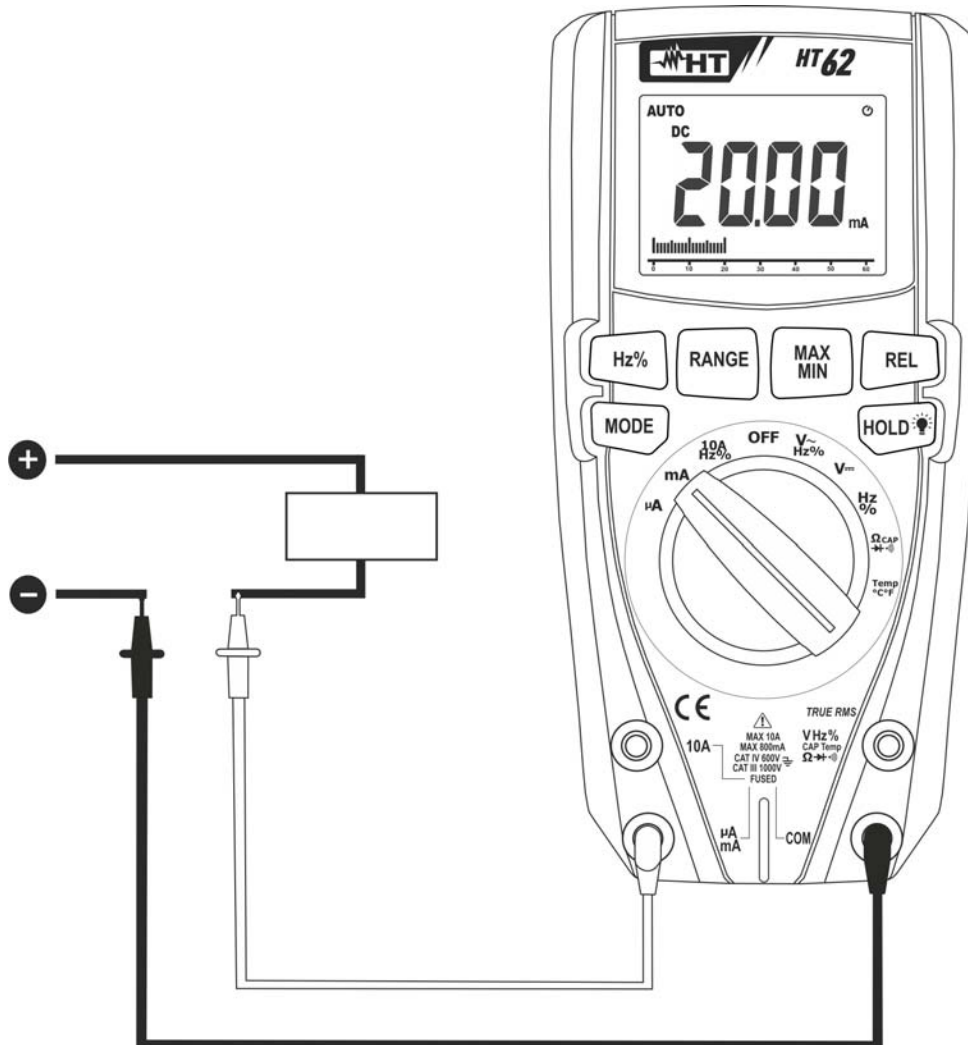

Fig. 9: Use of the instrument for DC current measurement
4. Connect the red lead and the black lead in series to the circuit whose current you want to measure, respecting polarity and current direction (see Fig. 9).
7. When symbol "-" appears on the instrument's display, it means that current has the opposite direction with respect to the connection in Fig. 9.